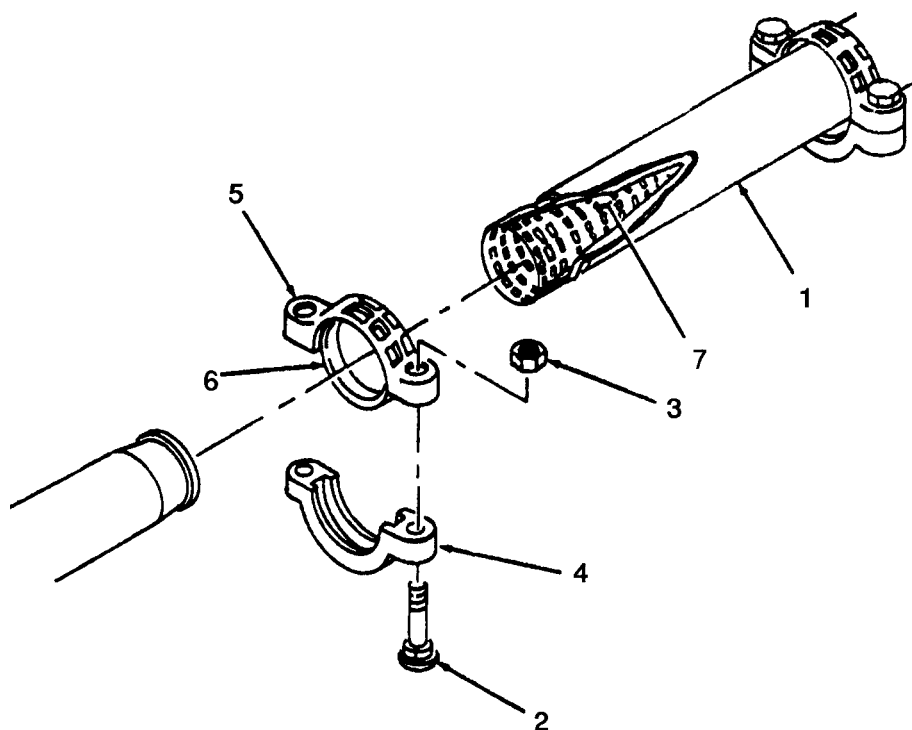

Figure 3-12. Strainer Assembly, Service and Replace.
a. Remove (Figure 3-12)
- (1) Isolate strainer (1) i.e. close valves on each side.
- (2) Remove two bolts (2) and nuts (3) securing lower half of pipe coupling clamp (4) and upper half of pipe coupling damp (5) on one side of strainer.
- (3) Remove pipe coupling damp halves and gasket (6).
- (4) Drain residual fuel into appropriate container.
- (5) Repeat procedures (2) and (3) for the opposite side of strainer.